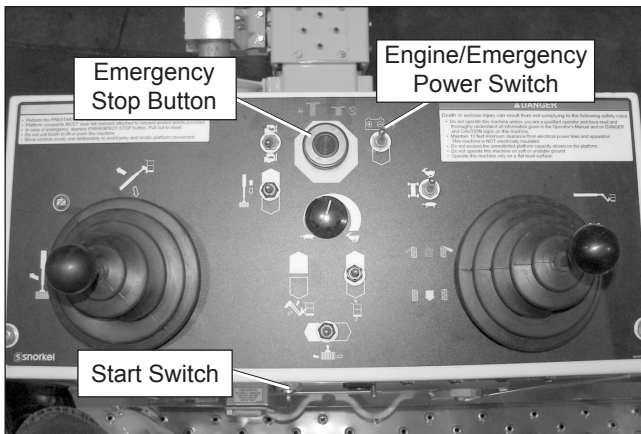

Figure 7.22 – Upper Controls
3. At the upper controls (refer to Figure 7.22), pull the emergency stop button outward.
2. At the upper controls, push the emergency stop button (refer to Figure 7.22) inward to turn off electrical power.
3. At the upper controls (refer to Figure 7.22), pull the emergency stop button outward and place the start switch in the on position.